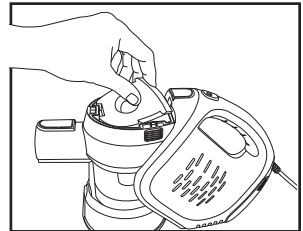

Fig. 2
4. Remove the electrostatic foam filter and rinse with cool water. Allow to dry thoroughly before replacing it in the vacuum (Fig. 2).